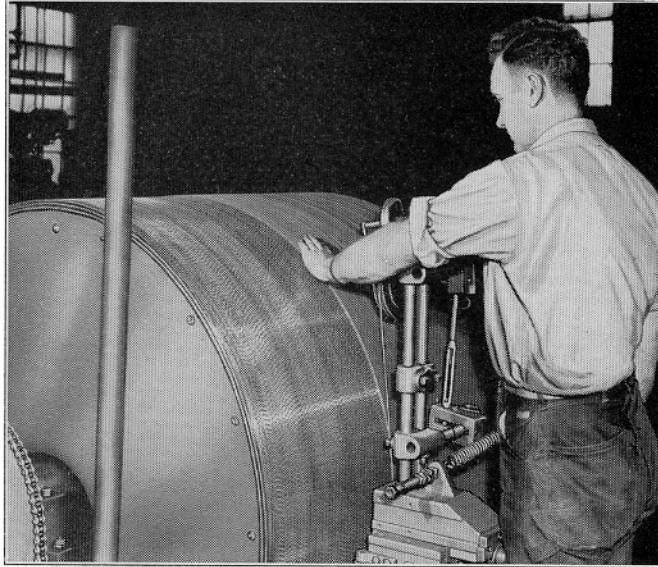

FIG. 24. WINDING THE WIRE
54. After the foundation has been prepared, the metallic wire is wound on. This is the most important part of the procedure, because the winding must be done quite evenly. As shown in Fig. 24, special equipment is used to maintain precise tension throughout the winding. Even if the mill management decides to rewind cards in the mill rather than to send them for rewinding to the shop of the card clothing manufacturer, such equipment must be obtained, and a man must be trained to use it.